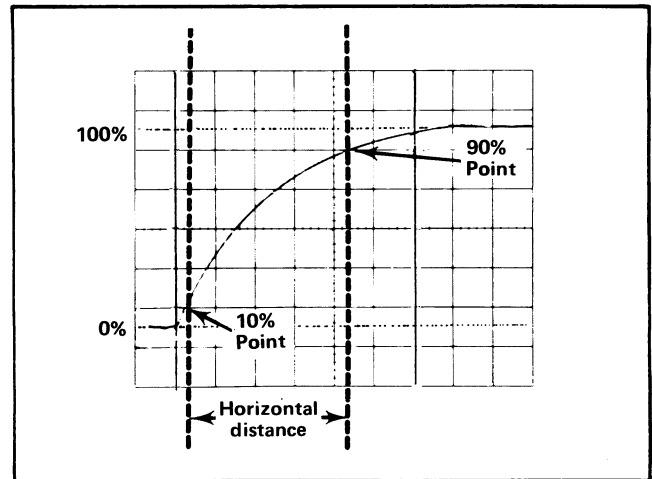

Fig. 1-4. Measuring risetime.
4. Set the time-base triggering controls to obtain a stable display. Set the Sec/Div switch to the fastest sweep rate that will display less than eight divisions between the 10% and 90% points on the waveform (see Fig. 1-4).